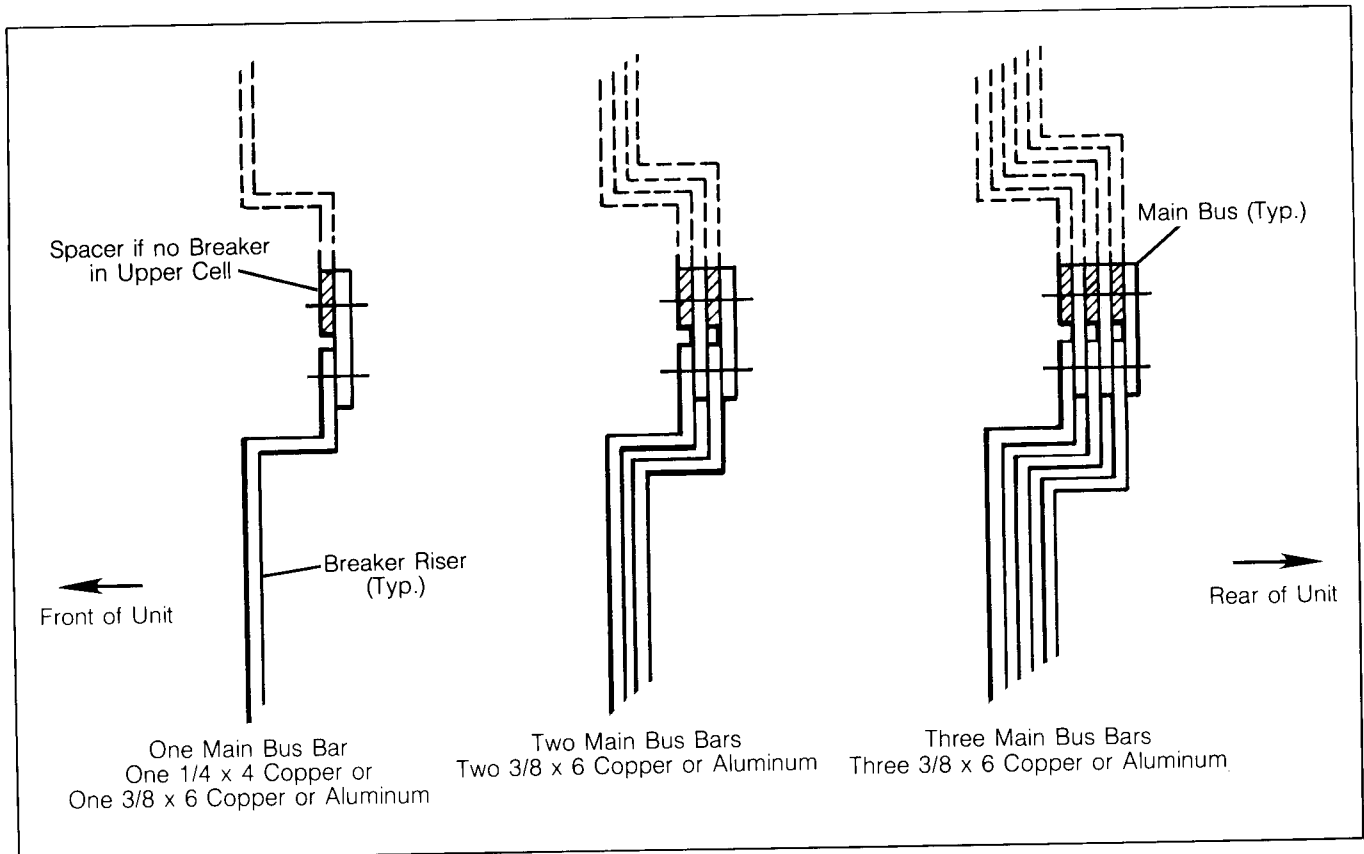

Figure 9. Main Bus Joint Connection Configurations
- c. Spacers on links are required at certain bus joints to insure the cross sectional area of the joint. The conditions where these spacers are required vary with the type of bus joint. Refer to **Figure 9**.